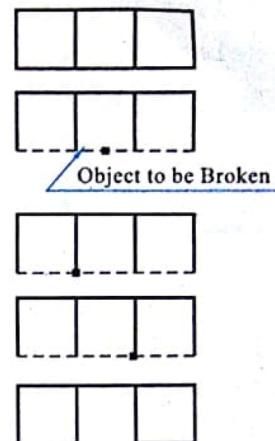

FIG. 14.20
**Example :** Refer figure 14.20.